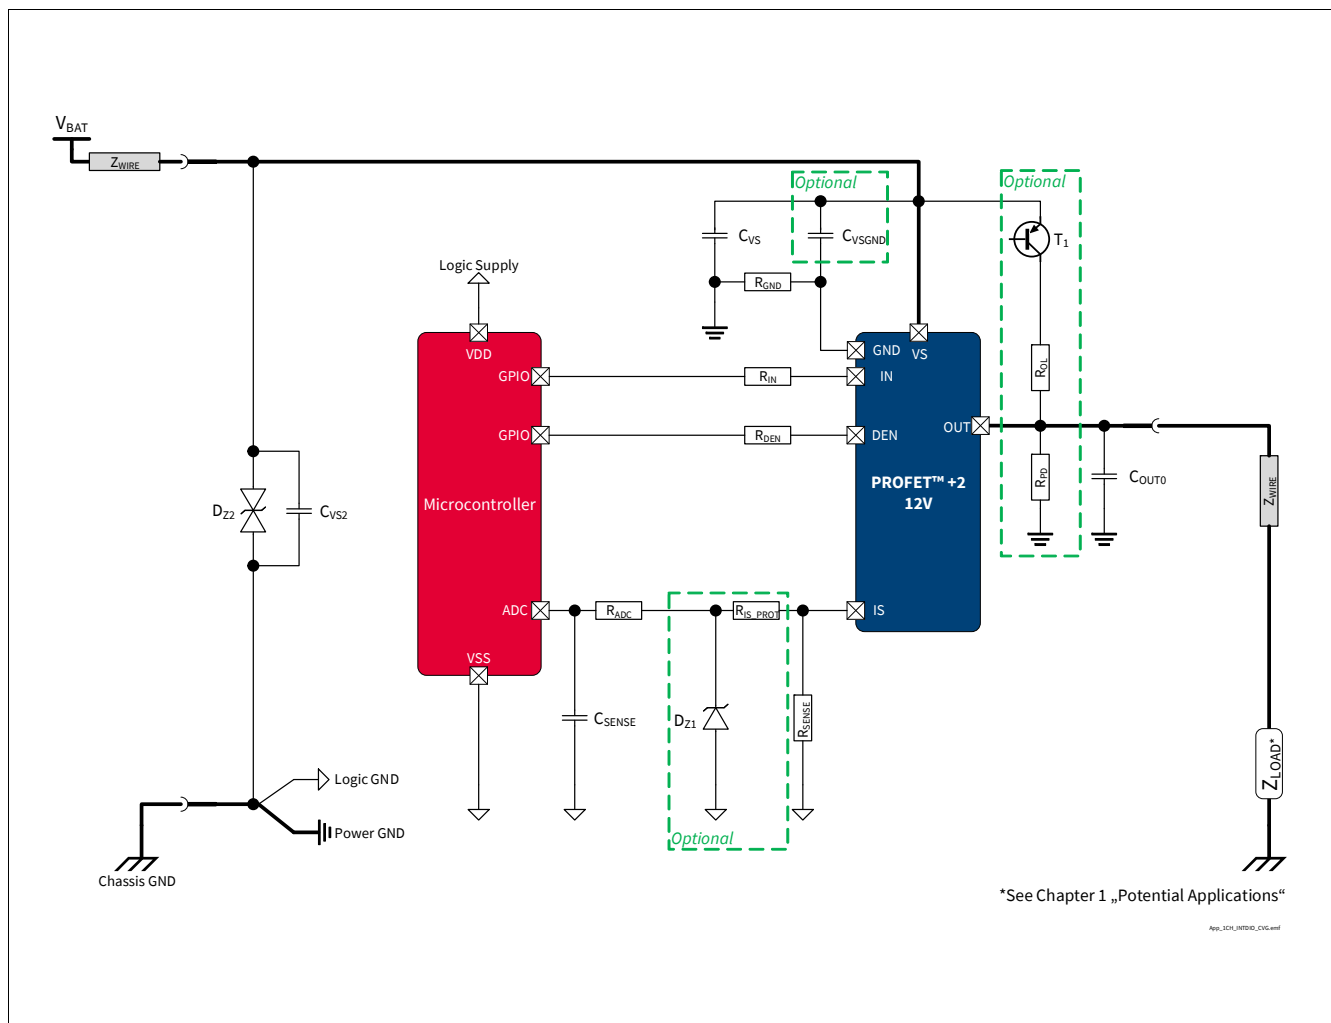

Figure 42 BTS7040-1EPA Application Diagram
1.02 , 2019-10-15	P_8.7.6.1, P_8.7.6.7, P_8.7.6.8 updated (added in Note or Test Condition: link to Figure 25) P_8.7.6.6 updated (added in Note or Test Condition: link to Figure 26) P_7.5.6.4, P_7.5.6.5 updated (added in Note or Test Condition: DEN = "low"; link to Figure 19) P_7.5.6.12 updated (added in Note or Test Condition: see Figure 21; deleted unnecessary space in Symbol: $dV_{OUT} / dt \rightarrow dV_{OUT} / dt$) P_9.7.6.1 updated (added in Note or Test Condition: See Figure 34) P_9.7.6.6 updated (Min./Typ./Max.: -40%/1800/+40% $\rightarrow$ -26.0%/1750/+26.0%) P_9.7.6.8 updated (Min./Typ./Max.: -35%/1800/+35% $\rightarrow$ -23.5%/1750/+23.5%) P_9.7.6.9 updated (Min./Typ./Max.: -30%/1800/+30% $\rightarrow$ -20.5%/1750/+20.5%) P_9.7.6.12 updated (Min./Typ./Max.: -26%/1800/+26% $\rightarrow$ -19.0%/1750/+19.0%) P_9.7.6.15 updated (Min./Typ./Max.: -11%/1800/+11% $\rightarrow$ -9.7%/1805/+9.7%) P_9.7.6.17 updated (Min./Typ./Max.: -6%/1800/+6% $\rightarrow$ -6.0%/1805/+6.0%) P_9.7.6.19 updated (Min./Typ./Max.: -5%/1800/+5% $\rightarrow$ -4.5%/1805/+4.5%) P_7.5.6.11 updated (added in Note or Test Condition: see Figure 19) P_4.2.6.6 updated (Max.: 7.5 mJ $\rightarrow$ 9 mJ) Figure 1, Figure 42 updated Chapter 1 updated (or LED equivalent $\rightarrow$ or equivalent electronic loads (e.g. LED modules)) P_4.3.0.7 added Table 23 updated Chapter 5.1 updated (added: see Chapter 10 for the complete application setup overview)